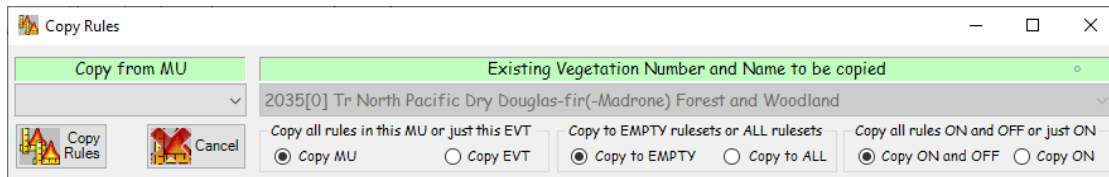

Figure 6-12. The **Copy Rules** dialog box.
The following **Copy Rules** dialog box will open (Figure 6-12).
- Use the drop-down menu at the top left of the **Copy Rules** dialog box to select a MU (Management Unit) to copy *from* (Figure 6-12).